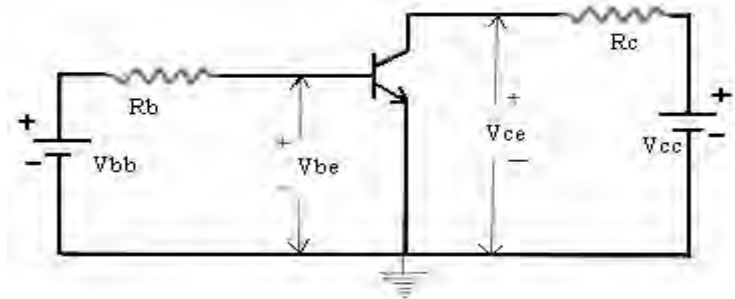

Figure.1
- b) A silicon NPN transistor has $I_{co} = 20nA$ and $\beta = 150$, $V_{be} = 0.7V$. It is operated in Common Emitter configuration (as shown in Figure.1) having $V_{bb} = 4.5V$, $R_b = 150K$, $R_c = 3K$, $V_{cc} = 12V$. Find the emitter, base and collector currents and also verify in which region does the transistor operate. What will happen if the value of the collector resistance is increased to very high values? [5+10]